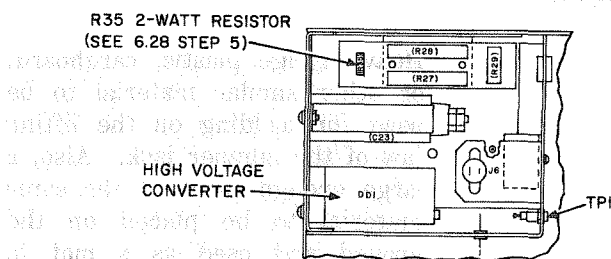

Fig. 6—High Voltage Compartment—Cover Removed
- (1) Operate the ON-OFF switch on the front panel to the OFF position.
- (2) Remove fuse from the front panel.
- (3) Remove the screws and open the front panel.
- (4) Remove the screws from the high voltage compartment cover located in the upper left-hand corner of the electrical equipment cabinet, and remove the cover. The high voltage compartment is illustrated in Fig. 6.